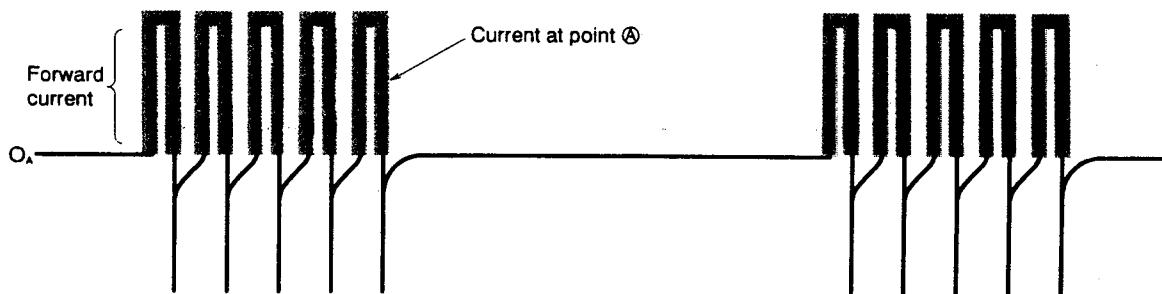

Fig. 7-2 Forward Current Waveform at Point ⑧
- When pin ②③ of the micro computer goes "HI" → "LO", a photocoupler between PQ2 pins ① and ② turns on and current flows to terminal ⑧ → R401 → PQ2 → R404 → power module's Bu+ terminals → Eu+ terminals → D402 → D401 → terminal ⑩ and drives the upper arm transistors. (Fig.7-2)
- As described in the rotor magnetic pole position detecting circuit, the upper arm drive circuit supplies current to the bases of the transistors on the power module's positive ⊕ side which turn on or off according to the position detection signals. The signals according to the position detection signals are output from pins ②③, ②④ and ②⑤ of the micro computer and are input to pins ② of photocouplers PQ2 - PQ4.